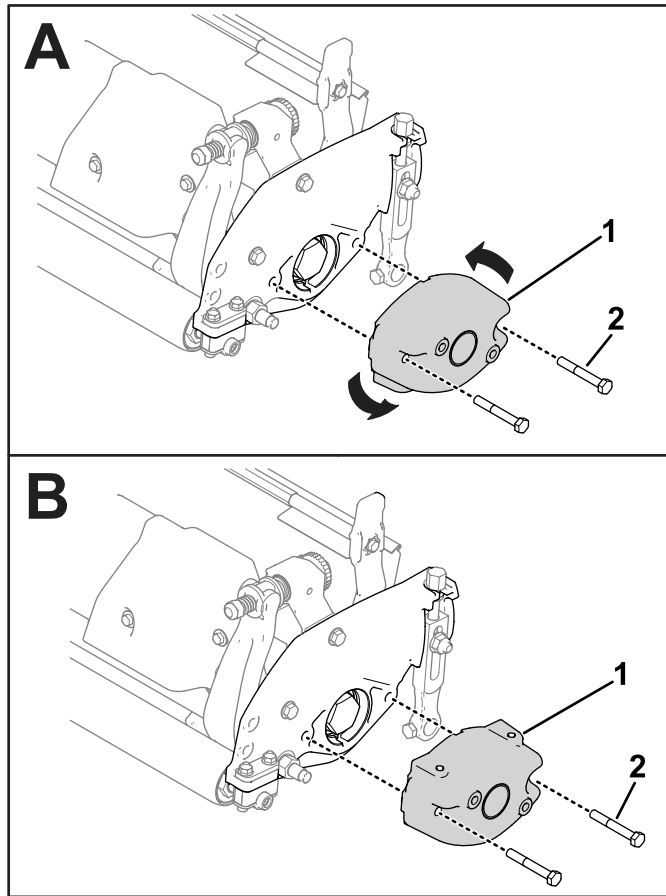

Figure 49
1. Remove the existing counterweight from the cutting unit and install the counterweight so that the threaded holes face upward (Figure 49).